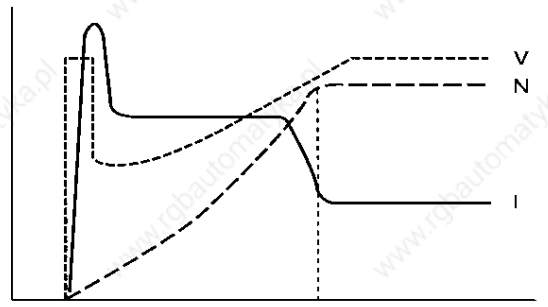

Figure 29 Starting with Booster
- BST: configures initial voltage supplied to motor (Figure 29 on page 39).